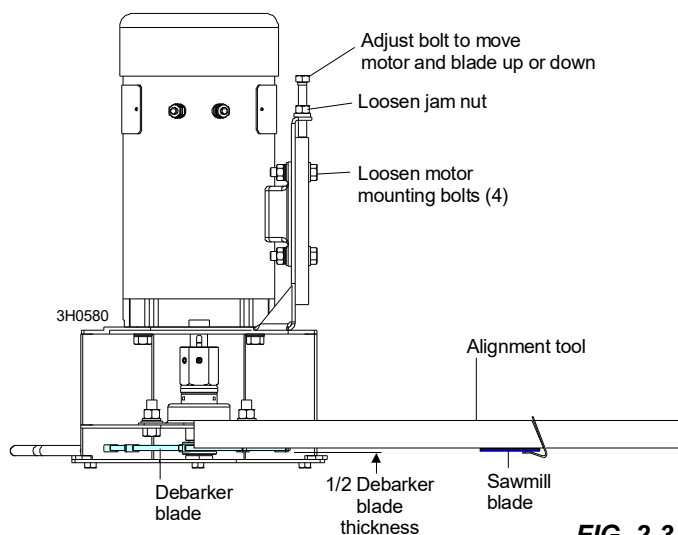

FIG. 2-3
1. Clip the blade guide alignment tool (or an appropriate straight edge) to the sawmill blade. (Refer to Figure 2-3.)